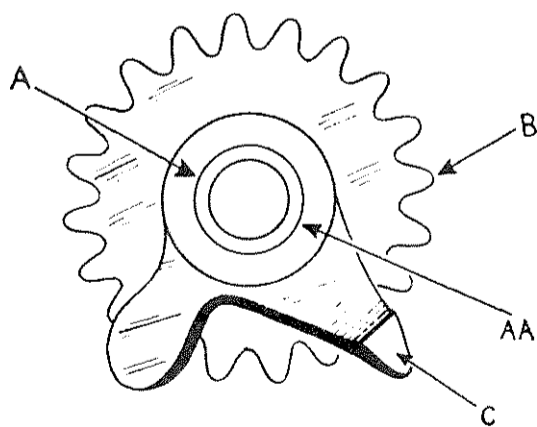

Fig. 10
One other part that will cause trouble is the fence gear assembly on some makes of locks. (See Figure 10) This assembly engages in the drive wheel and is in motion whenever the drive wheel moves. Of course, we know already that the drive wheel moves everytime the knob is turned, so that these two parts are in constant motion when dialing. The gear of the fence gear assembly (B), which meshes with a similar gear on the drive wheel, is connected to a rod (A) on which the gear assembly dog (C) pivots. The entire assembly is held in place by a locking burr (AA). While it is very seldom that the teeth